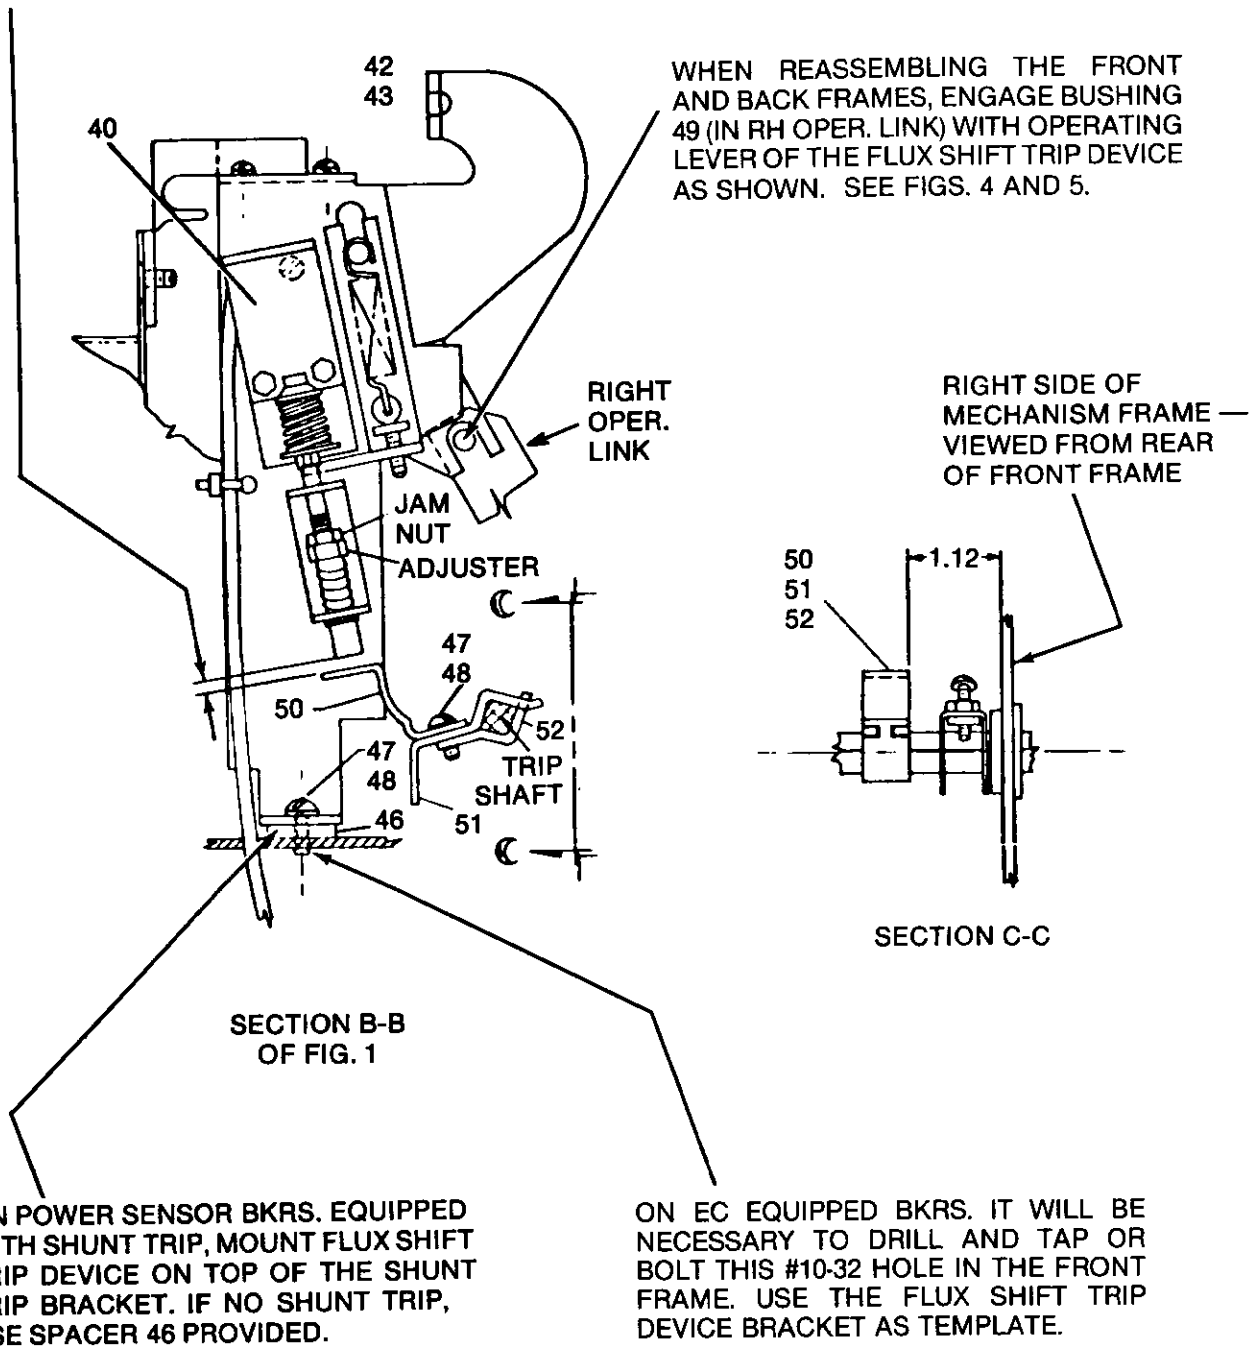

Fig. 17 — Right side view of mechanism frame showing mounting of flux shift trip device 40.
7. Proceeding to the front frame, mount the flux shift trip paddle on the breaker's trip shaft per Figs. 17 and 18.
8. Mount the flux shift trip device per Figs. 17 and 19. **NOTE:** Adjustment of trip rod length will be performed later in Step 13.
13. Adjust flux shift trip rod gap per instructions on Fig. 17.